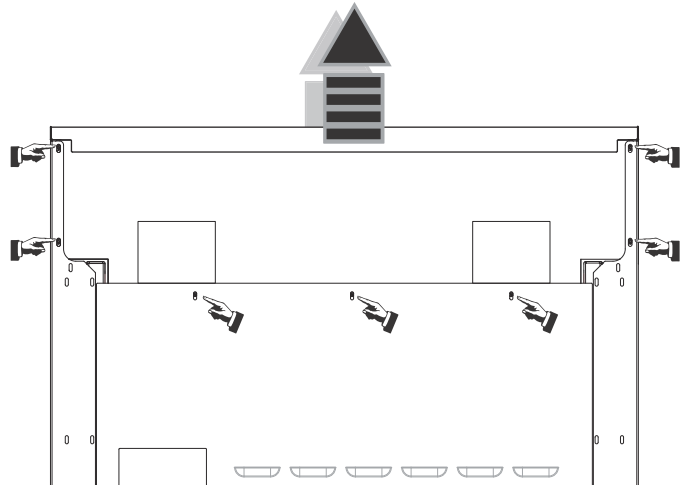

Figure 28: Flush Island Trim Rear Screw Removal
2. Remove the (4) drill point screws securing the trim to the side panels, and the (3) or (4) drill point screws securing the piece to the back panel. Lift up to fully remove (Figure 28).